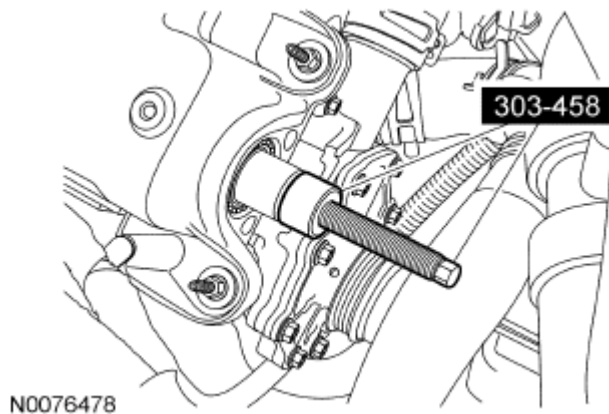

Fig. 80: Identifying Camshaft Pulley Installer Screw
NOTE: Failure to use the correct special tools, assembled as shown in the Fig. 80, will result in damage to the coolant pump pulley and/or special tools.
9. Install the Camshaft Pulley Installer in the camshaft as shown in the Fig. 80.